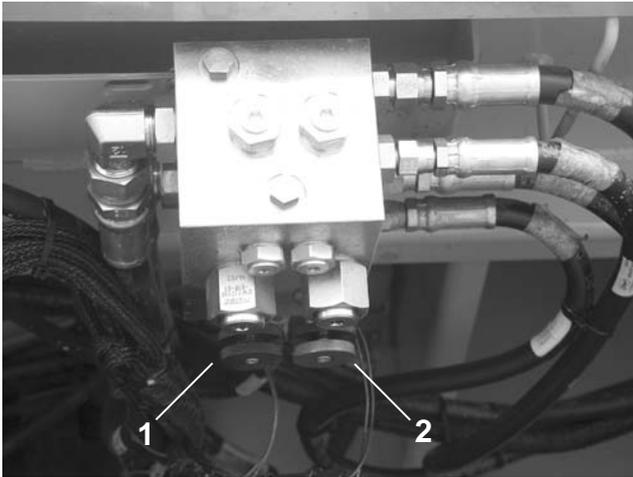

Figure 32. Right Auger/Spreadroll Manifold
2) To adjust the speed, loosen the jam wheel on the spreadroll flow control valve under the right walkway (Figure 32 Ref 1). Turn the adjusting knob clockwise to decrease the speed of the spreadroll, or counterclockwise to increase the speed. Retighten the jam wheel.